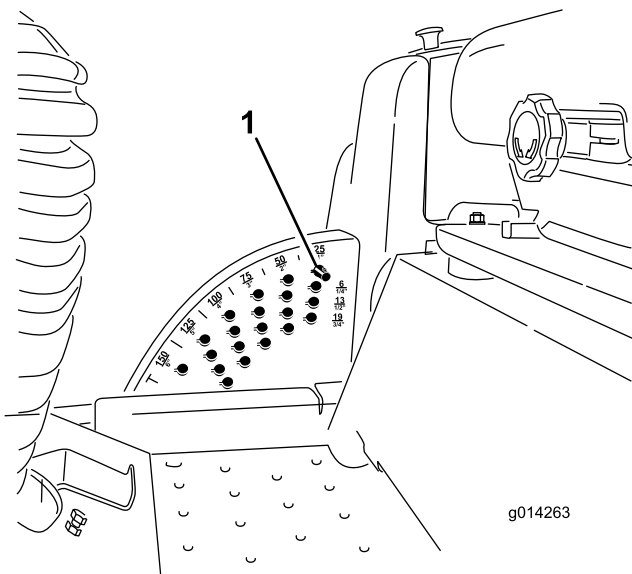

Figure 18
**Note:** To lock the mower deck/attachment in a raised position, raise the deck past the 6 inch (15 cm) position, remove the height of cut stop pin (refer to Adjusting the Height-of-Cut), and place the pin in the 6 inch (15 cm) height-of-cut position (Figure 18).
1. With the engine running, push back on the deck lift switch until the mower deck is fully raised and **release the switch immediately** (Figure 18).
2. To adjust, rotate the stop pin until the nub on it lines up with the slots in the holes in the height-of-cut bracket and remove it (Figure 18).
3. Select a hole in the height-of-cut bracket corresponding to the height-of-cut desired, insert the pin, and rotate it down to lock it in place (Figure 18).
**Note:** There are four rows of hole positions (Figure 18). The top row gives you the height of cut listed above the pin. The second row down gives you the height listed plus 1/4 inch (6 mm). The third row down gives you the height listed plus 1/2 inch (12 mm). The bottom row gives you the height listed plus 3/4 inch (18 mm). For the 6 inch (15.8 cm) position there is only one hole, located in the second row. This does not add 1/4 inch (6 mm) to the 6 inch (15.8 cm) position.